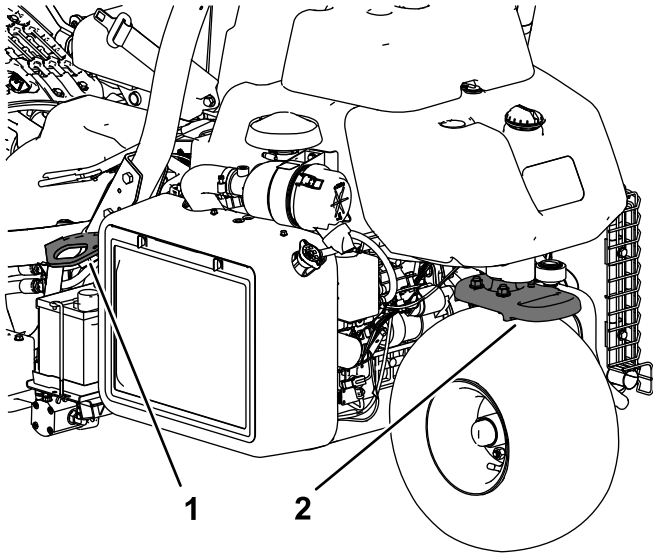

Figure 30
- Tie the machine down securely using straps, chains, cable, or ropes. Both front and rear straps should be directed down and outward from the machine (Figure 30).